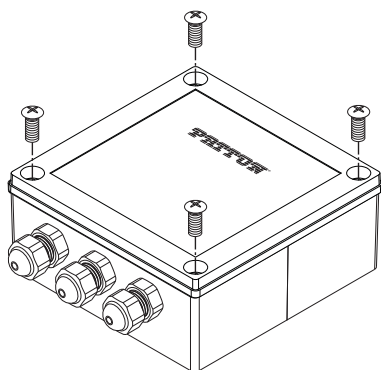

Figure 4. Removing the top cover
1. Remove the top panel screws by turning them counter-clockwise (see **Figure 4**. “Removing the top cover” on page 6).